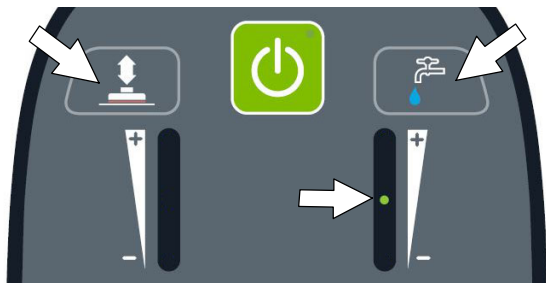

FIG. 165
6. To save the desired maximum limits, press and hold the brush pressure button and the solution flow button together until the LED turns solid, approximately 3 seconds (Figure 165).